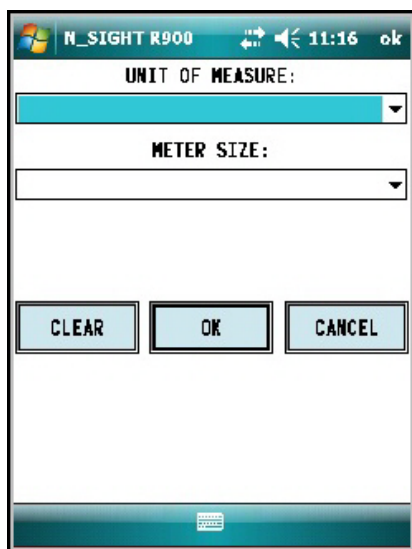

Figure 54 Meter Size Selection
- 5 You are prompted to provide meter size and unit of measure. You can type this information now and click **OK** or after the data logging has completed. See Figure 54.